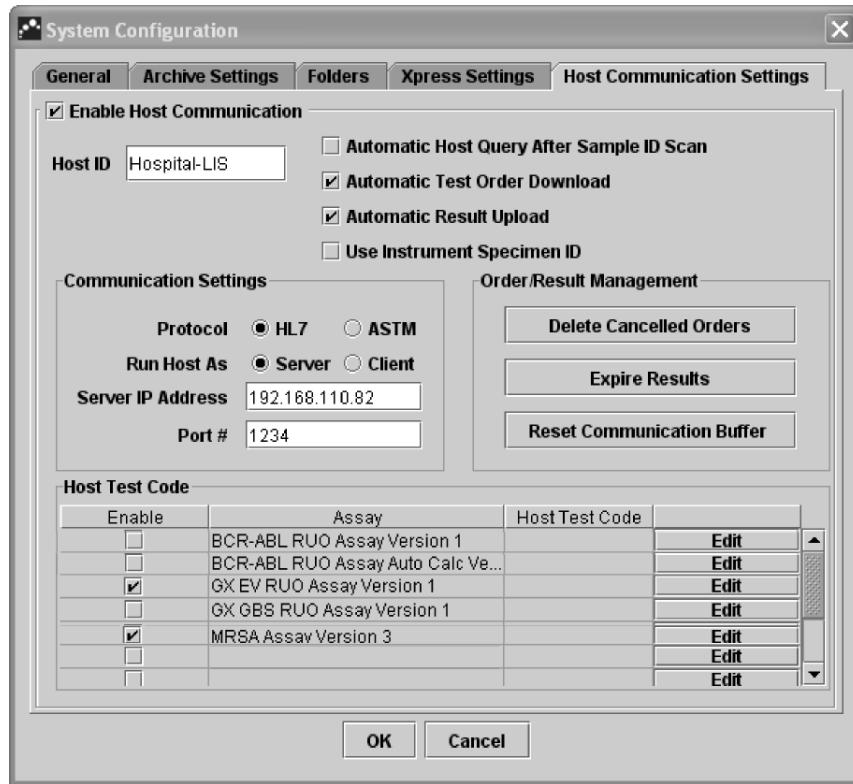
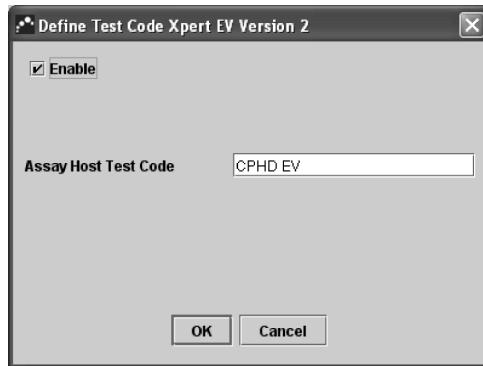

Figure 6-2. Host Communication Settings window
Figure 6-3. Define Test Code dialog box for a single-result assay
- Click the **Host Communication Settings** tab. The Host Communication Settings window appears (Figure 6-2).
1. In the **Host Test Code** table section of the Host Communication Settings window (Figure 6-2), click the desired appropriate **Edit** button to change the setting. The Define Test Code dialog box appears (Figure 6-3).